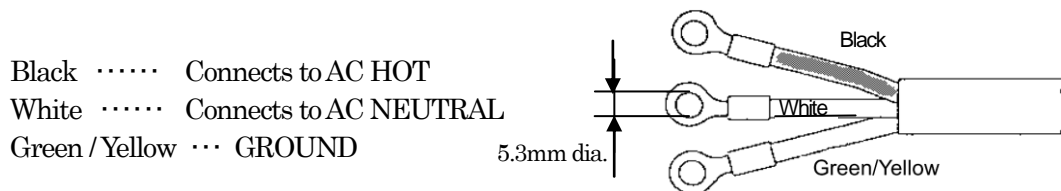

Fig.3 Configuration of AC230V power supply cable connection-terminal
- A cable terminal supplying AC230V to the iMScope TRIO must be connected to a circuit breaker or to a power outlet using 3-point power plug. (Refer Fig3.)